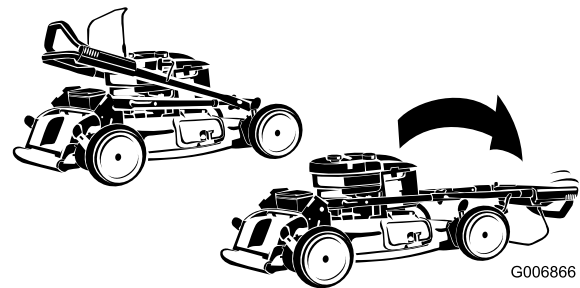

Figure 4
1. Carefully move the upper handle forward until the handle halves are in line and nest together as shown (Figure 4).